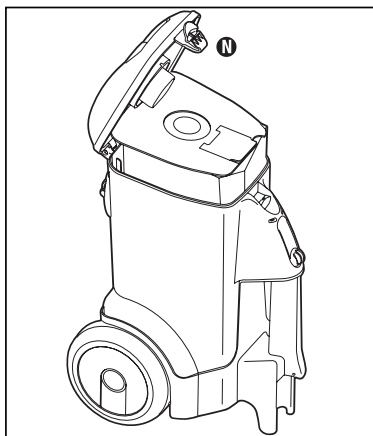

Fig. 10
Step 2: Open lid by pushing down hood latch **N** (Fig. 10).